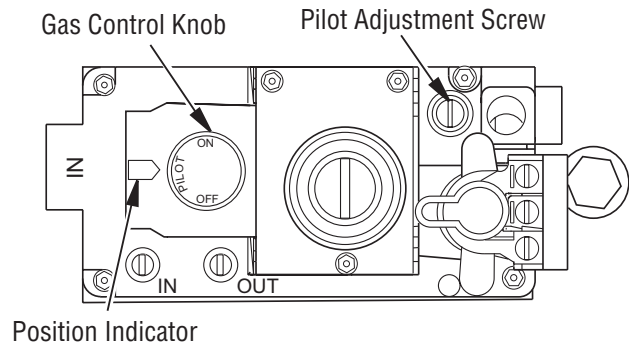

Figure 36 - Control Knob in the PILOT position
7. Turn gas control knob clockwise ↻ to the OFF position (see Figure 36).
8. Wait five (5) minutes to clear out any gas. Then smell for gas, including near the floor. If you smell gas, STOP! Follow "B" in the safety information, column 1. If you don't smell gas, go to the next step.
- Turn adjustment screw marked pilot clockwise to decrease or counterclockwise to increase the flame to proper size (see Figure 36, page 17). Do not remove adjustment screw.